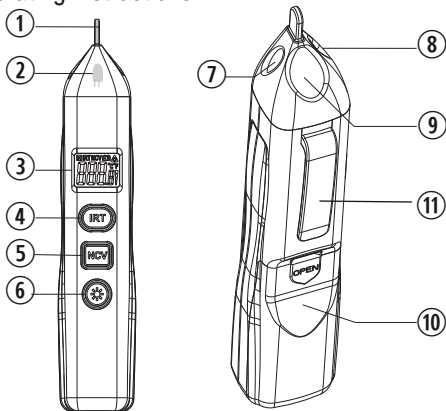
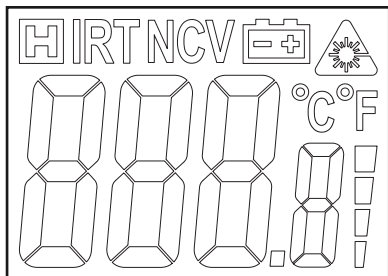

Fig. 1. The controls, indicators and key components of the VR40.
Fig. 2. All possible display indications.
Fig. 1 shows the controls, indicators and key components of the VR40. Figure 2 shows all possible indicators on the unit’s LCD. Familiarize yourself with the labels, positions and functions of all buttons and components before moving on to the Setup Instructions and Operating Instructions.
The VR40's battery compartment (Fig. 1, Callout 10) is accessible from the back of the unit.
batteries are charged, the beeper will sound repeatedly and the red LED under the translucent cap (Fig. 1, Callout 2) will flash when the tip is in one of the slots. Alternatively, briskly rub the tip of the VR40 through your hair or against your skin; static electricity has more than enough voltage to activate the beeper and LED.
1. If the beeper sounds and the NCV detection LED near the tip (Fig. 1, Callout 2) flashes when the tip is inserted in the smaller slot of a modern 15A outlet (right slot of left figure on next page), the outlet is both energized and properly wired (the smaller slot is "hot" and the larger slot is neutral).
- Clean the lens of the infrared sensor (Fig. 1, Callout 9) often—but never use a solvent.